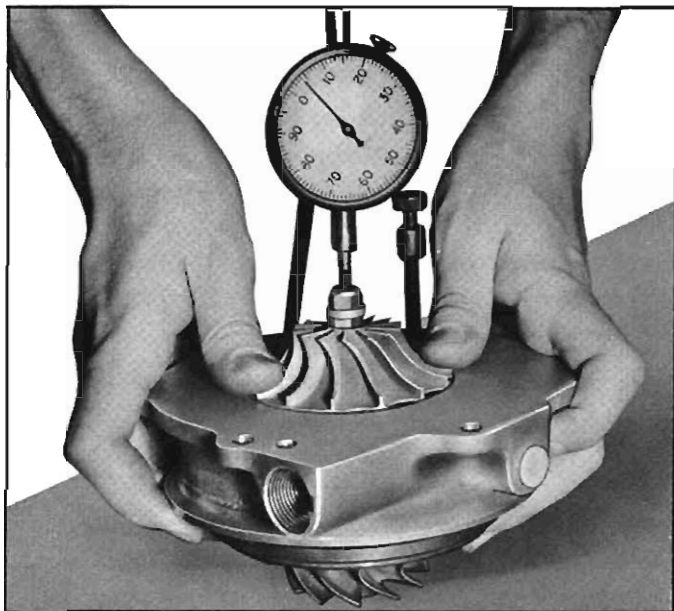

Fig. 32—Gauging Turbine Shaft End Play
- a. Attach a dial indicator to the bearing housing so that indicator point is resting on the impeller nut (fig. 32).